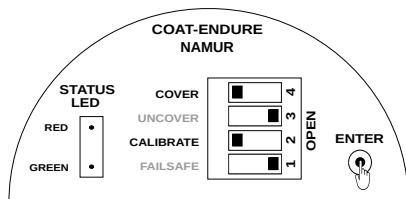

Figure 55: Setting Calibration
- Press and hold ENTER key, the STATUS LED will glow in RED color as shown in Figure 55.